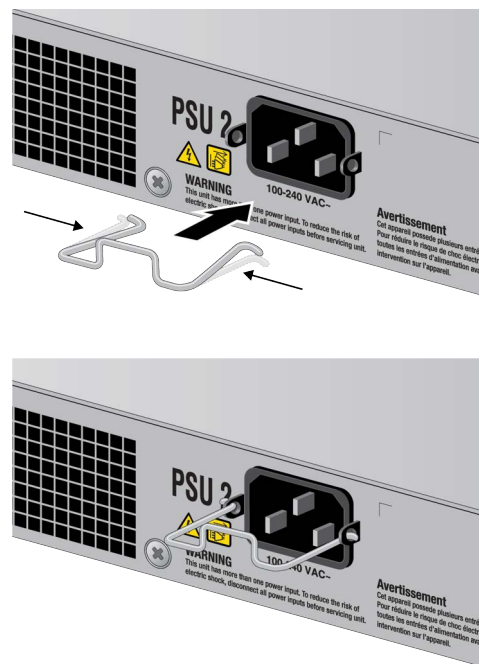

Figure 27. Installing the Power Cord Retaining Clip
1. Install a power cord retaining clip on an AC power connector on the rear panel of the switch, as shown in Figure 27.